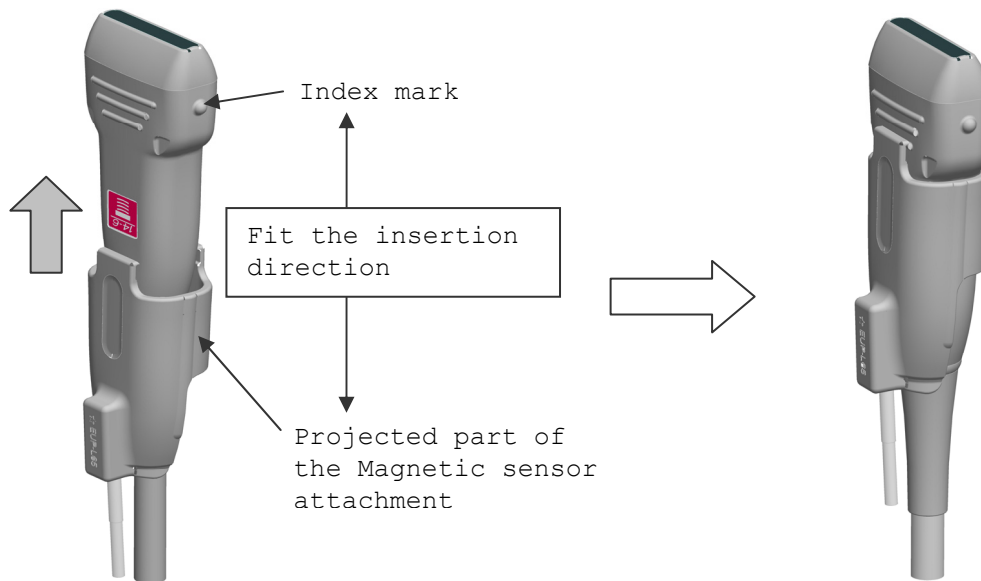

Fig. 10 How to attach the Magnetic sensor attachment
- b) Place the magnetic sensor attachment on the probe as shown in Fig. 10. Fit the projected part of the magnetic sensor attachment in the index mark of the probe.